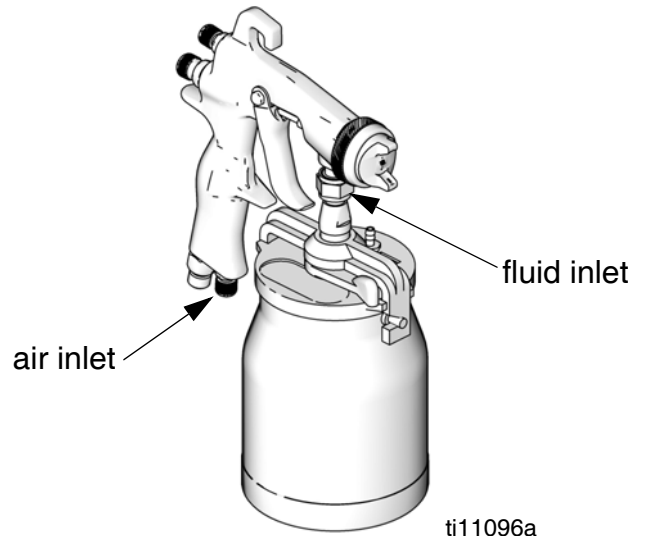

FIG. 1
4. Connect a clean, dry, filtered air supply to the air inlet fitting. See FIG. 1.